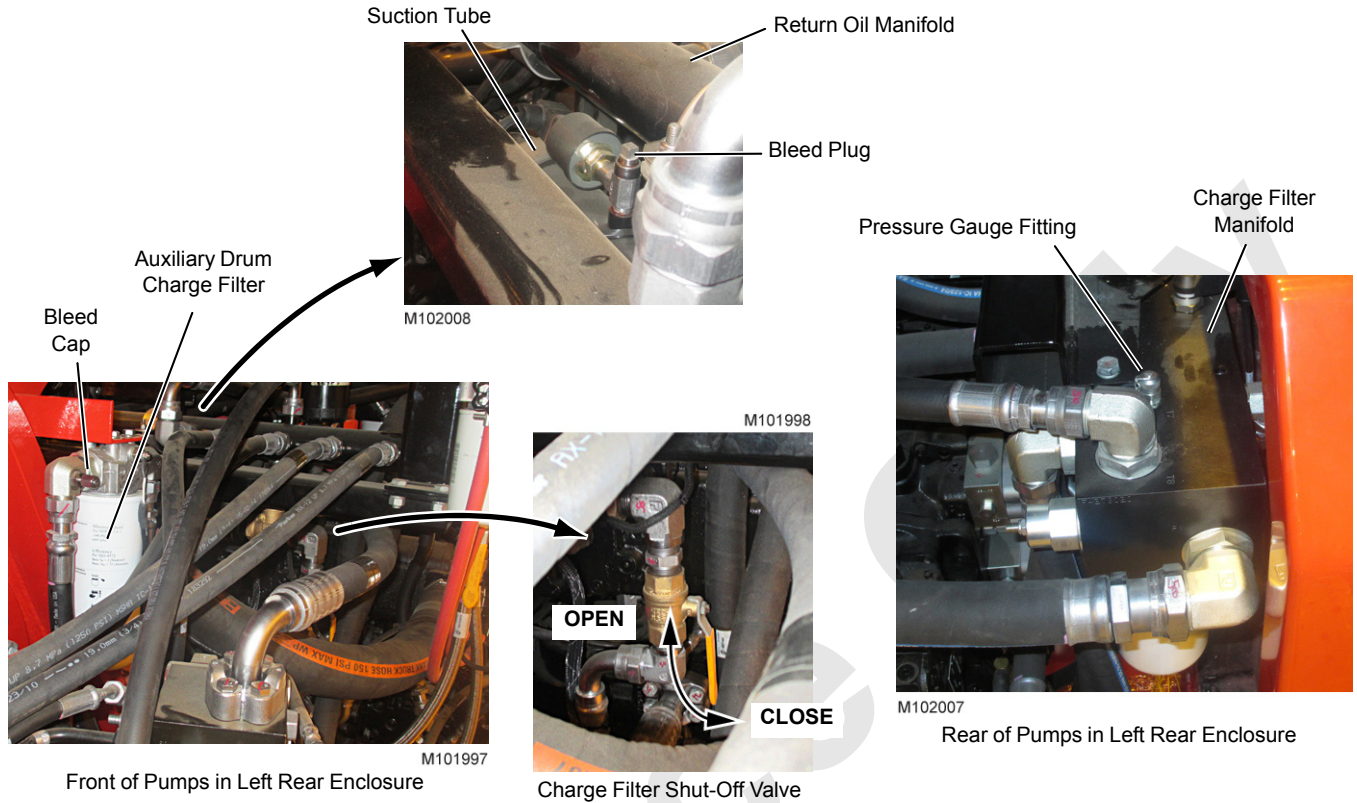

FIGURE 2-20
5. Open charge filter shut-off valve (Figure 2-20).
6. Remove bleed cap from outlet fitting of auxiliary drum filter (Figure 2-20).
7. Remove bleed plug from top of tee in suction tube (Figure 2-20).
8. Remove pressure gauge fitting from top of charge filter manifold (Figure 2-20).
11. As tank is filling, monitor bleed port on top of suction tube (Figure 2-20). When clear oil appears, install plug using Loctite sealant with Teflon.
12. Monitor pressure gauge port on top of charge filter manifold (Figure 2-20). Oil will flow by gravity from hydraulic tank to filter manifold. Install pressure gauge fitting when clear oil appears.